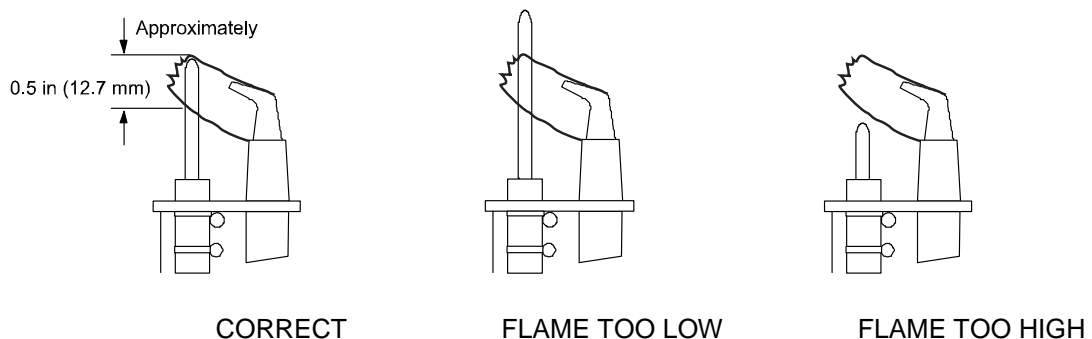

Figure 1: Proper Flame Sensor Position
- Weak flame, flame not in contact with the spark electrode of flame sensor. Check that flame sensor tip is in the flame. For proper sensing, the rod tip must be $3/8$ " (10mm) to $1/2$ " (13mm) in the flame. See figure 1.